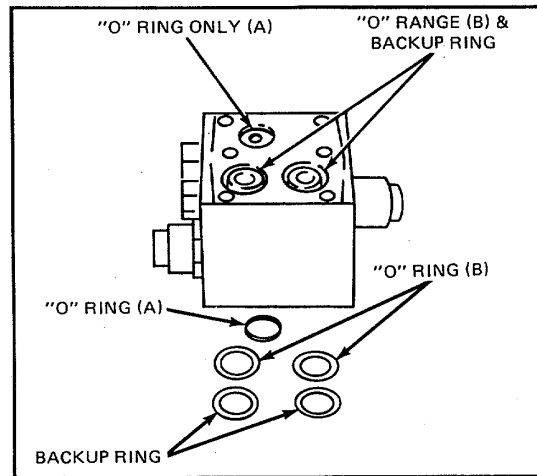

Figure 10.
3. The remaining groove requires only an O-ring (refer to Fig. 10).